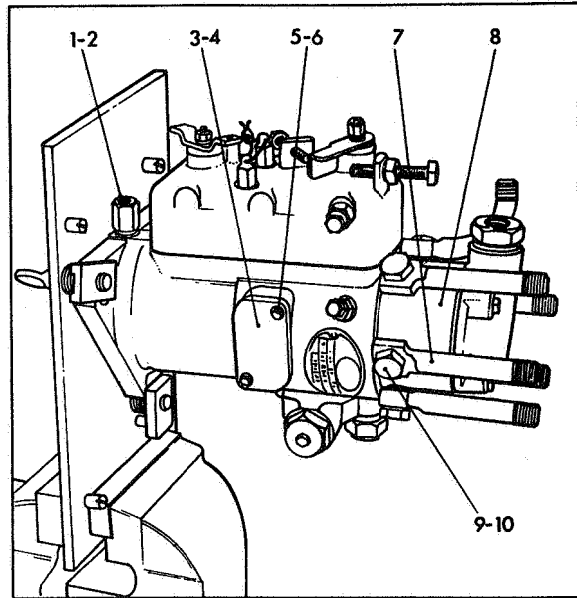

Fig 33 Assembled pump
Assemble drain connection washer (1) Fig 33 to drain connection (2) and screw into pump housing. Assemble inspection cover plate and inspection cover plate gasket (3 & 4) to pump housing and secure with cover plate screws and washers (5 & 6).